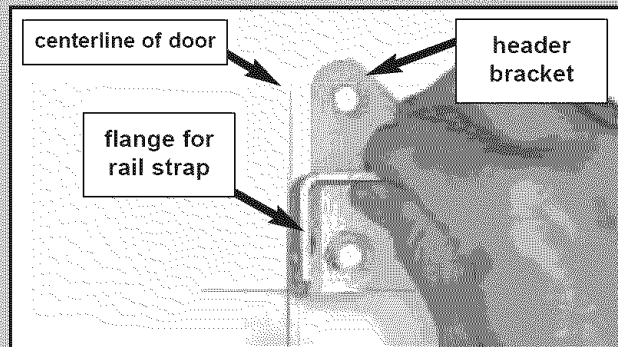

Fig. 2-6
- Make sure flange where rail strap attaches, is on centerline. **Fig. 2-6.**